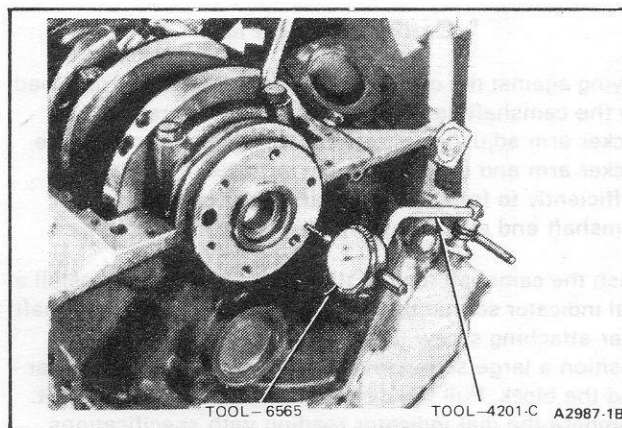

Fig. 7 - Checking Crankshaft End Play - Typical
2. Install a dial indicator so that the contact point rests against the crankshaft flange and the indicator axis is parallel to the crankshaft axis (Fig. 7).